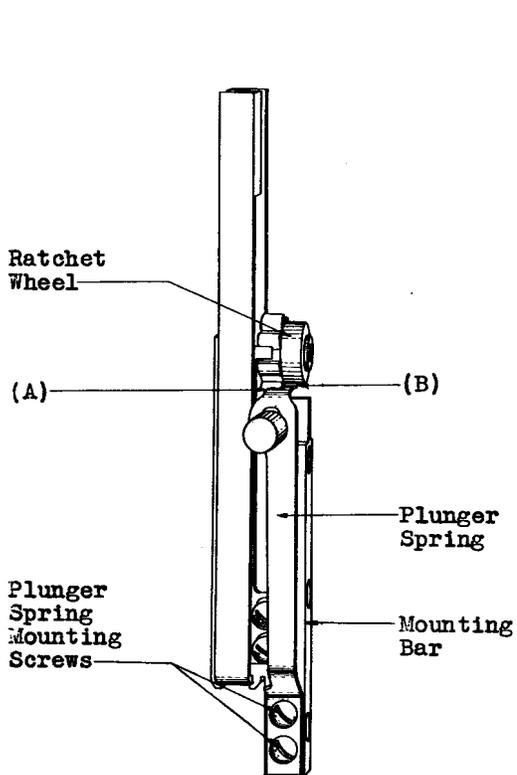

Fig. 4
(d) Fig. 4 (A) - With the play of the ratchet wheel taken up in a clockwise direction, the engaging end of the plunger spring shall engage the straight face of any ratchet tooth as follows:
(e) Fig. 4 (B) - As the plunger is operated, the curved surface at the end of the plunger spring shall squarely engage the circular portion of the ratchet wheel. Gauge by eye.